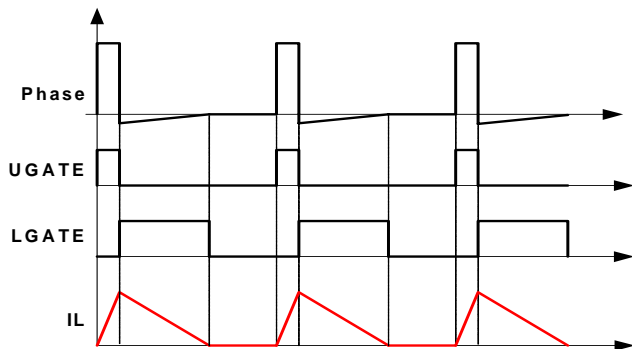

FIGURE 6. DIODE EMULATION
ISL62883 can operate in diode emulation (DE) mode to improve light load efficiency. In DE mode, the low-side MOSFET conducts when the current is flowing from source to drain and doesn't allow reverse current, emulating a diode. As Figure 6 shows, when LGATE is on, the low-side MOSFET carries current, creating negative voltage on the phase node due to the voltage drop across the ON-resistance. The ISL62883 monitors the current through monitoring the phase node voltage. It turns off LGATE when the phase node voltage reaches
If the load current is light enough, as Figure 6 shows, the inductor current will reach and stay at zero before the next phase node pulse, and the regulator is in discontinuous conduction mode (DCM). If the load current is heavy enough, the inductor current will never reach 0A, and the regulator is in CCM although the controller is in DE mode.